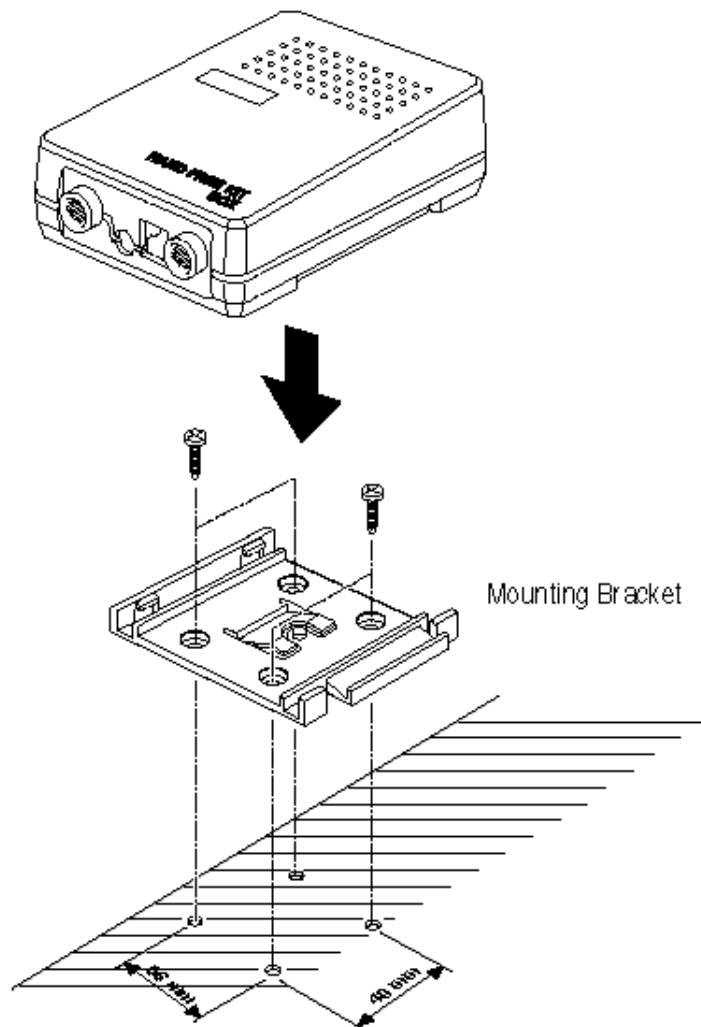

Figure 3-3 Hands-Free Box Installation
1. Drill holes in a proper location for the hands-free box, attach the mounting bracket by using the screws. See the figure 3-3.